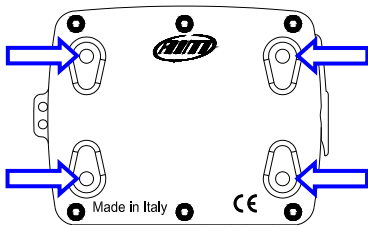

Figure 4 - MyChron Light TG rear view
- Your **MyChron Light TG** can suffer vibrations, this is why it is arranged with four thread holes (highlighted with four arrows in **figure 4**) you can use to install it.